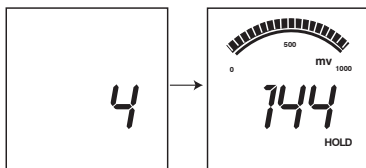

Fig. 1
4. After the reading is made press the MODE/HOLD button to store the current reading. The HOLD icon will be displayed. The storage location number will also be displayed followed by the reading being stored. (Fig. 1)